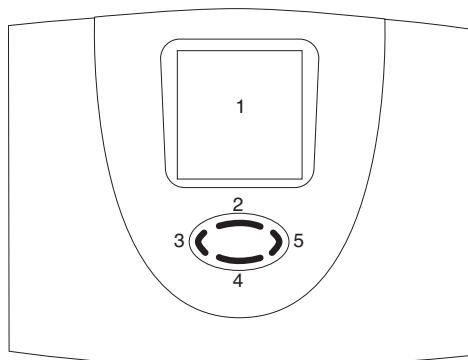

Fig. 2a
15. Key the left button (Fig. 2a item 3) once to enter the main menu screen. The 'i' icon will flash (See section 3.0 of the commissioning booklet 5130227 for a description of the solar controller button functions)
16. Press the right button (Fig. 2a item 5) twice to select the manual operation menu (). Press the down button and the 'pump' symbol and the 'switch output 1 and 2 symbols should now be seen with a 'zero' displayed. Changing the 'zero' to a 'one' will operate the pump. To do this, press the right button and the 'zero' will flash.